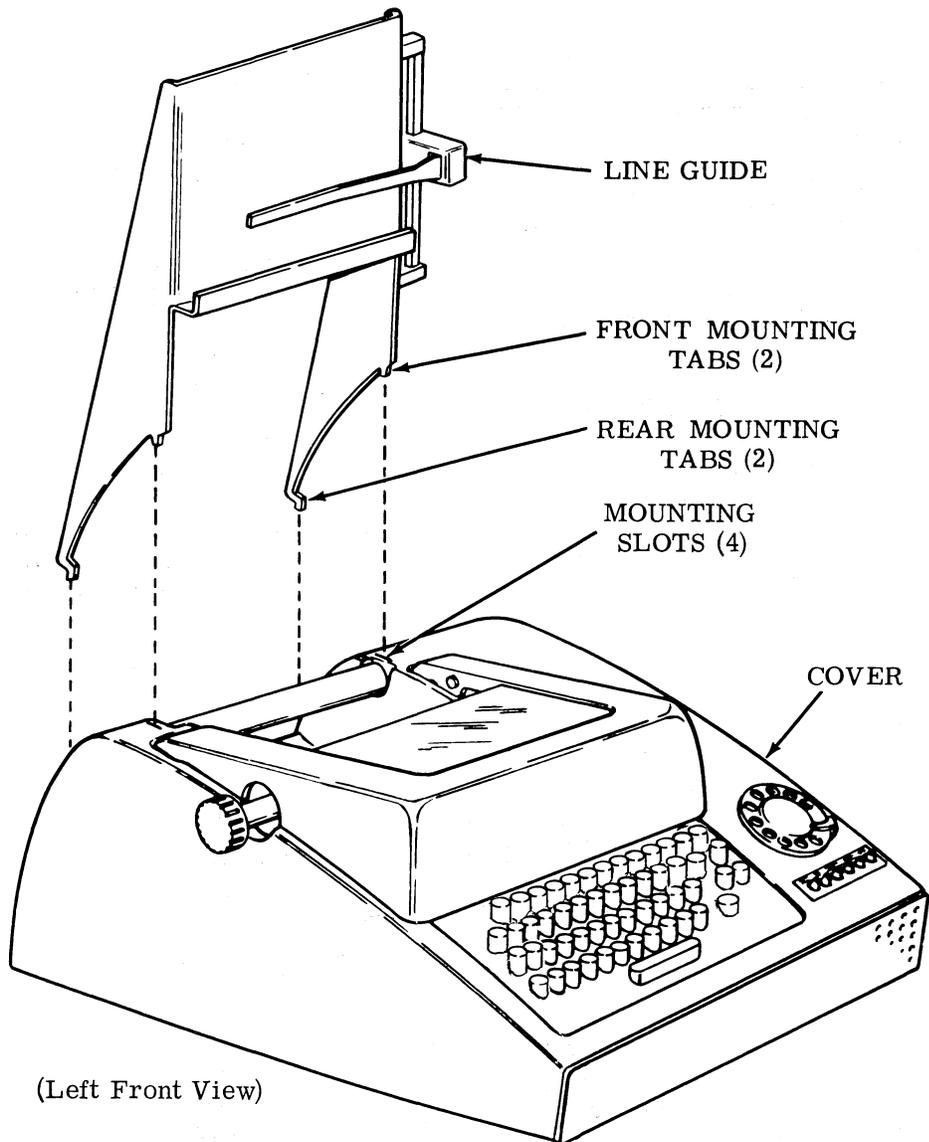

Figure 11 - Copyholder
4.01 With the line guide facing forward (Figure 11), insert the rear mounting tabs in the lower mounting slots. Pivot the copyholder to align the front mounting tabs above their mounting slots. Push copyholder downward until the tabs are fully seated.